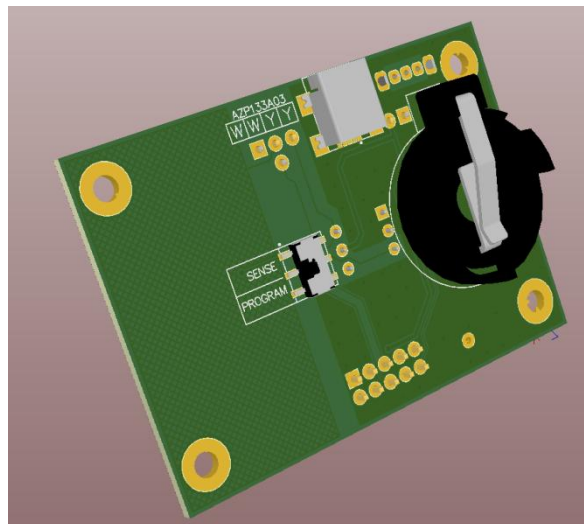

Figure 2.3 Bottom view of mother board.
- Slide switch for programming or streaming selection (See Figure 2.3).
Figure 2.3 shows the bottom view of the mother board. The daughter boards are powered by two 3V coin cell batteries, in series, which is regulated on the mother board to 4.5V. A ground pin and mini USB connector is also available to connect and review the effect of introducing larger ground references.